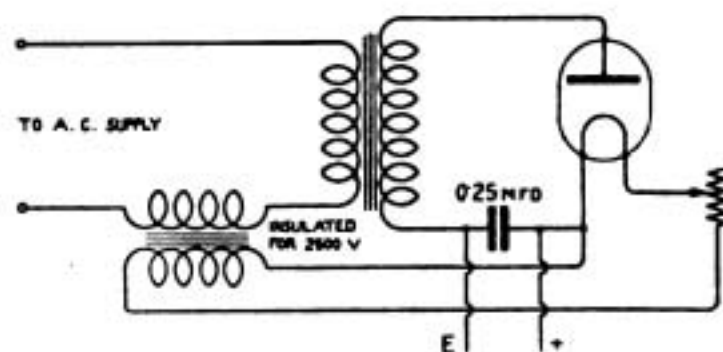

Fig. 1.
(2) See Fig. 1. For use with a coil the circuit should be similar, but with a battery for the valve filament. The battery should be insulated to the pressure given by the coil.